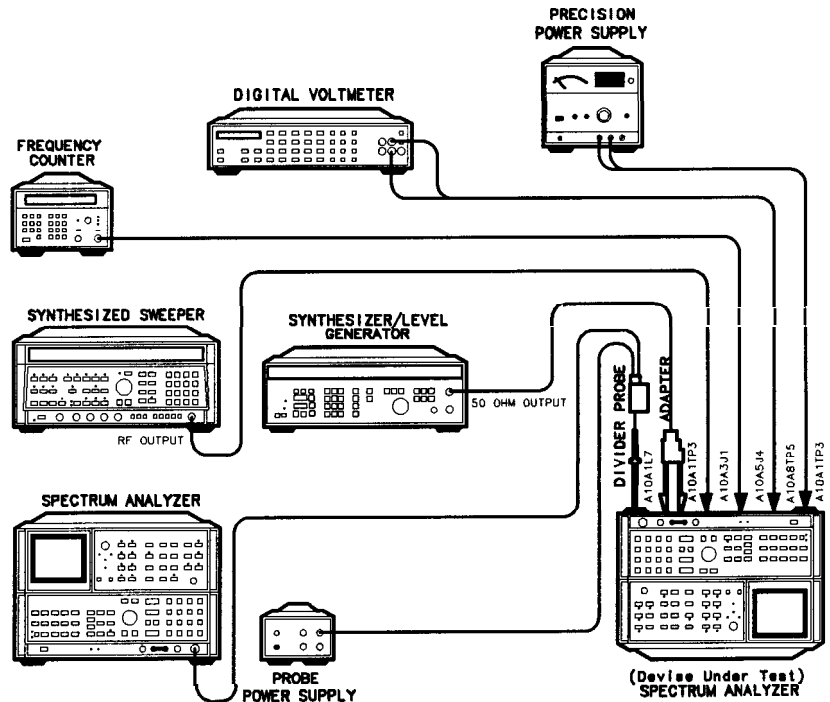

Figure 3-77. 20/30 PLL Adjustment Setup
1. Set the spectrum analyzer LINE switch to STANDBY. Turn the spectrum analyzer over to position the RF Section on top, as shown in Figure 3-77 and remove the RF Section bottom cover.
4. Connect the high-frequency active probe to the RF INPUT of the second spectrum analyzer and to the probe power supply, as shown in Figure 3-77.